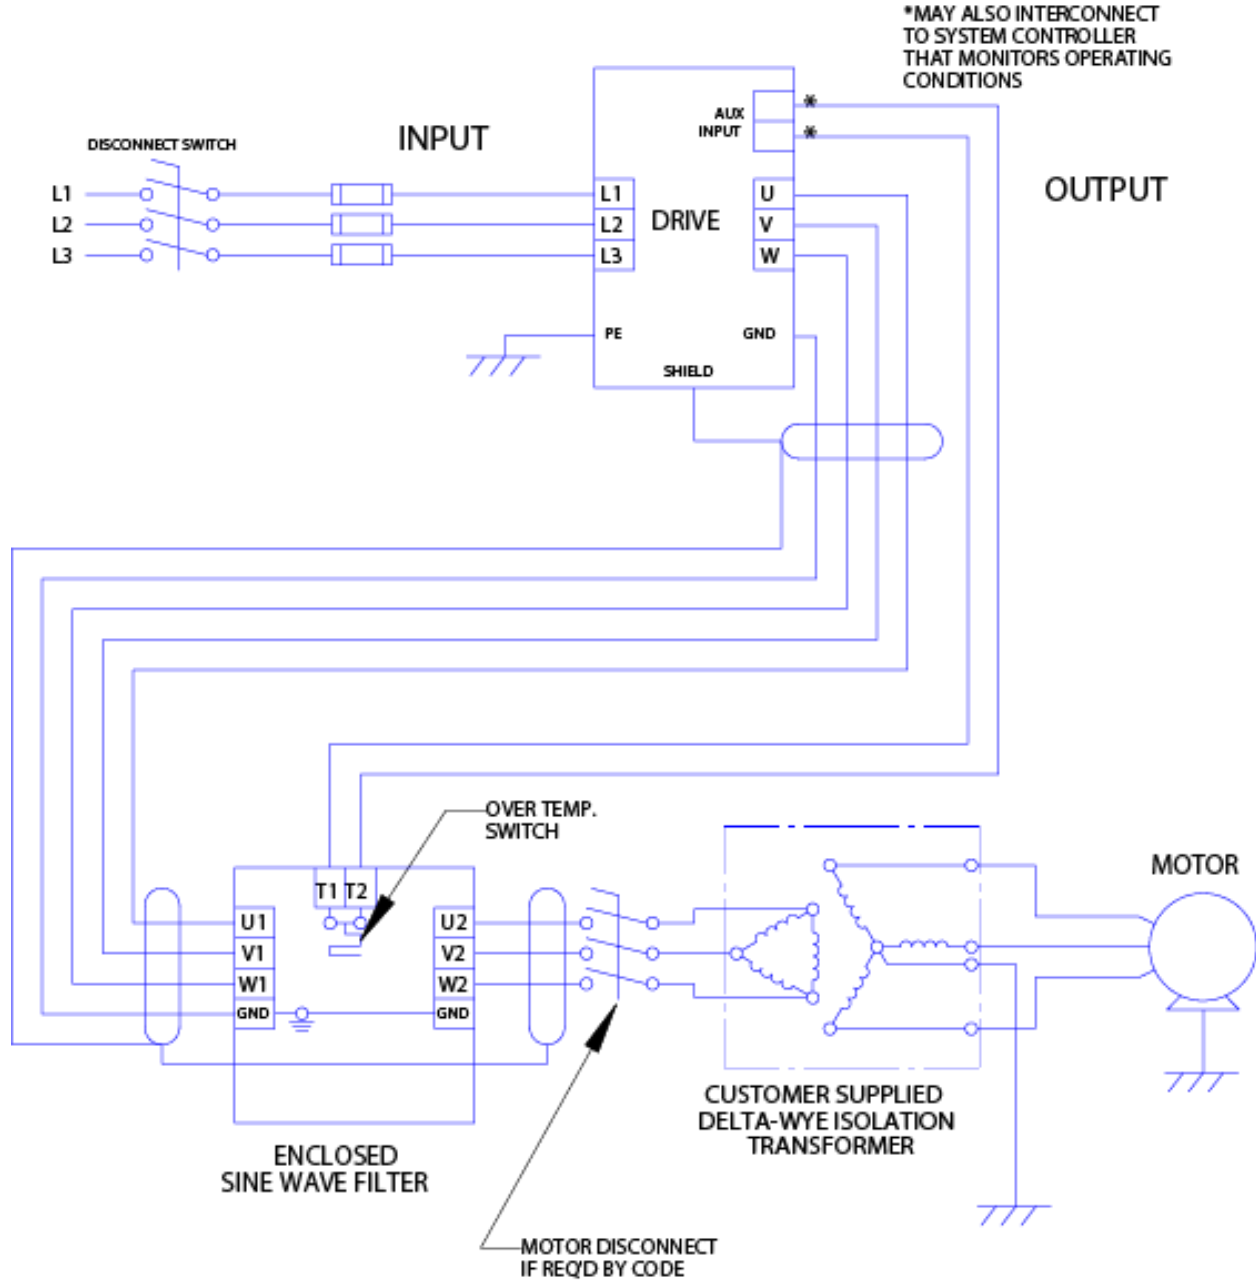

Figure 3-3: Isolation Transformer
- For isolation transformer connections between the filter, motor and the drive is shown in Figure 3-3 (p11).